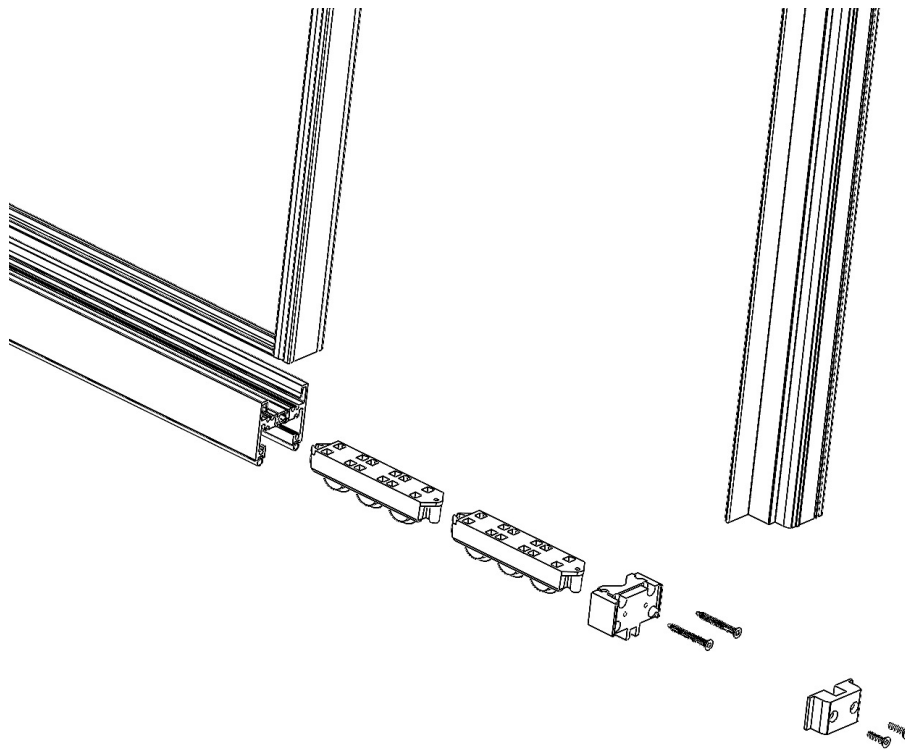

Figure 15
**Note: If you are installing a bi-parting door, you will have one (1) active lead panel and one inactive lead panel. The inactive lead panels are to be installed on the innermost track. The active lead panel will be installed to the left of center, as viewed from the exterior of the building. Fixed panels have one (1) interlock, no rollers, and rest on the outermost track. Intermediate panels will have two (2) interlock stiles.**
**Ex: A 4' wide panel may take four (4) roller assemblies; two (2) per side. A 5' wide panel may take six (6) roller assemblies; three (3) per side and so on.**
5. Determine the number of roller assemblies needed per panel and connect by sliding one (1) roller assembly onto the other. Continue this process for all required rollers. Once complete, slide the end sweep onto the roller assembly and set roller assemblies in front of panel.
6. Taking care not to scratch or shift the lead panel over. With a pry bar, lift the panel high enough to slide the roller assembly into place. Ensure that all rollers rest onto the track cap and roll freely. (See Figure 15).